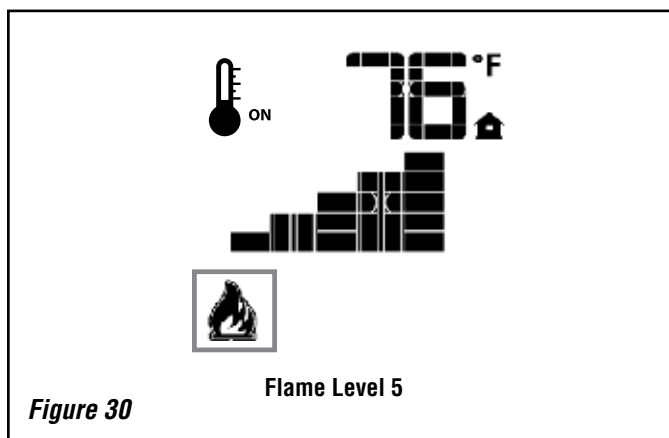

Figure 30
The system has six (6) flame levels. See **Figure 30** for an example. With the system on, and the flame level at the maximum in the appliance, pressing the Down Arrow Key once will reduce the flame height by one step until the flame is turned off.